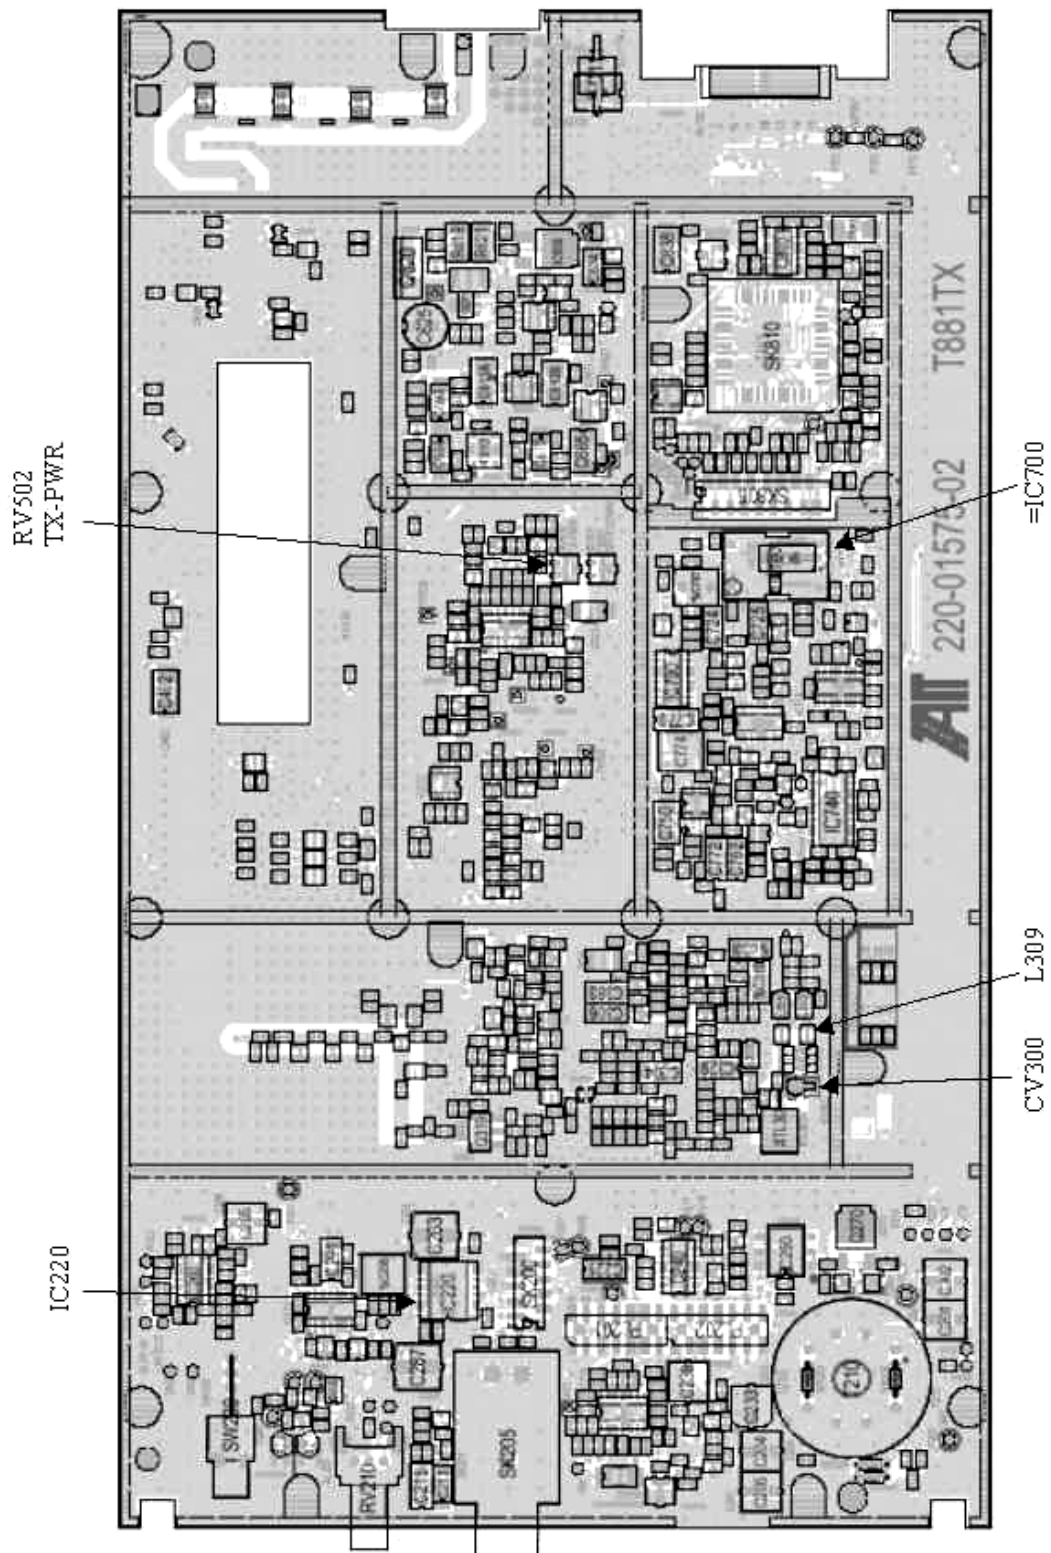

Figure 18 - T881-0200 Exciter Tuning Controls location
Note 1: Refer to Figure 18 (T881).
- T881 = 5W $\pm 0/-300\text{mW}$ (RV502, Figure 18)